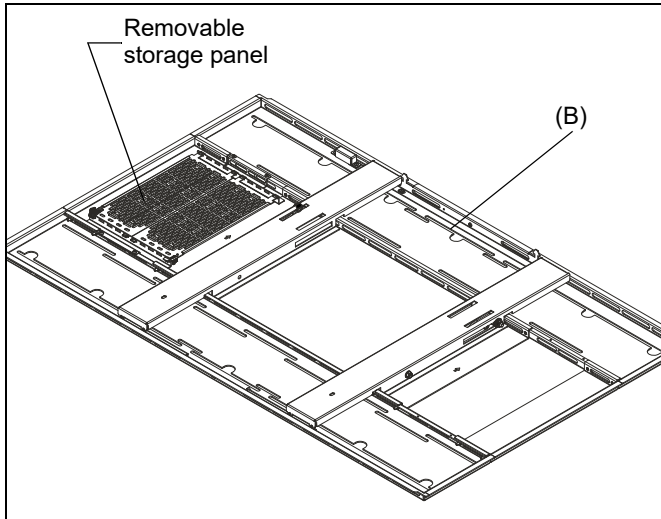

Figure 1
1. Remove kiosk rear frame (B) from the packaging and place on a flat surface. (See Figure 1)